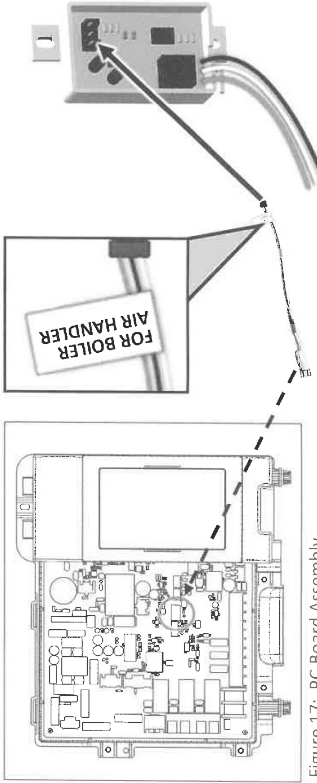

Figure 17: PC Board Assembly
4. Connect one end of the boiler air handler cable to the accessory port on the PC Board. Connect the other end of the cable to the **switch circuit board** accessory port (Figure 17).